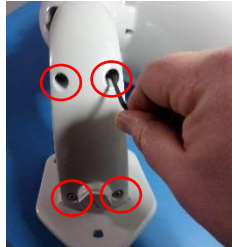

Fig 5
- Remove the wall bracket front cover (Fig 5). Using the medium Allen wrench provided (3mm), unscrew the 4 fixing bolts) and pull the cover away from the bracket arm.